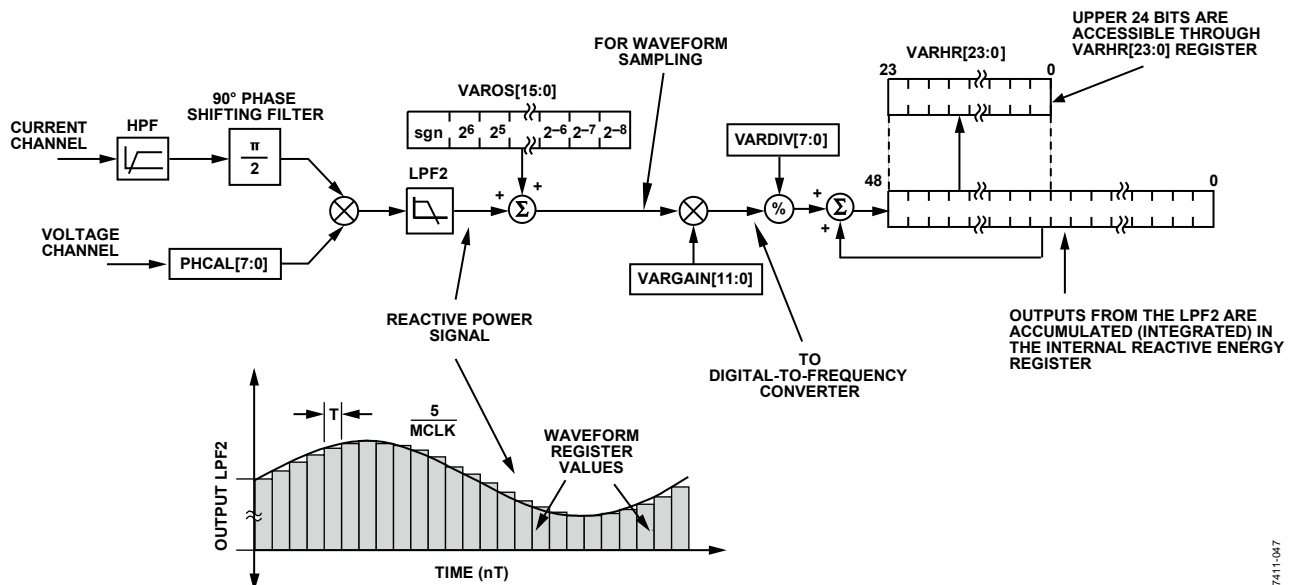

Figure 72. Reactive Energy Calculation
The instantaneous reactive power signal, $q(t)$, is generated by multiplying the voltage and current channels. In this case, the phase of the current channel is shifted by 90°. The dc component of the instantaneous reactive power signal is then extracted by a low-pass filter to obtain the reactive power information (see Figure 72).
Figure 72 shows the signal processing chain for the ADE5169/ADE5569 reactive power calculation. As explained in the Reactive Power Calculation (ADE5169/ADE5569) section, the reactive power is calculated by applying a low-pass filter to the instantaneous reactive power signal. Note that, when reading the waveform samples from the output of LPF2, the gain of the reactive energy can be adjusted by using the multiplier and by writing a twos complement, 12-bit word to the var gain register (VARGAIN, Address 0x1E[11:0]). Equation 23 shows how the gain adjustment is related to the contents of the var gain register.
The ADE5169/ADE5569 also incorporate a reactive power offset register (VAROS, Address 0x21). This is a signed, twos complement, 16-bit register that can be used to remove offsets in the reactive power calculation (see Figure 72). An offset can exist in the reactive power calculation due to crosstalk between channels on the PCB or in the IC itself. The offset calibration allows the contents of the reactive power register to be maintained at 0 when no power is being consumed.
The discrete time sample period (T) for the accumulation register in the ADE5169/ADE5569 is $1.22 \mu\text{s}$ ($5/\text{MCLK}$). As well as calculating the energy, this integration removes any sinusoidal components that may be in the active power signal. Figure 72 shows this discrete time integration or accumulation. The reactive power signal in the waveform register is continuously added to the internal reactive energy register.
As shown in Figure 72, the reactive power signal is accumulated in an internal 49-bit, signed register. The reactive power signal can be read from the waveform register by setting the WAVMODE register (Address 0x0D) and setting the WFSM bit (Bit 5) in the Interrupt Enable 3 SFR (MIRQENH, Address 0xDB). Like the current and voltage channel waveform sampling modes, the waveform data is available at sample rates of 25.6 kSPS, 12.8 kSPS, 6.4 kSPS, and 3.2 kSPS.